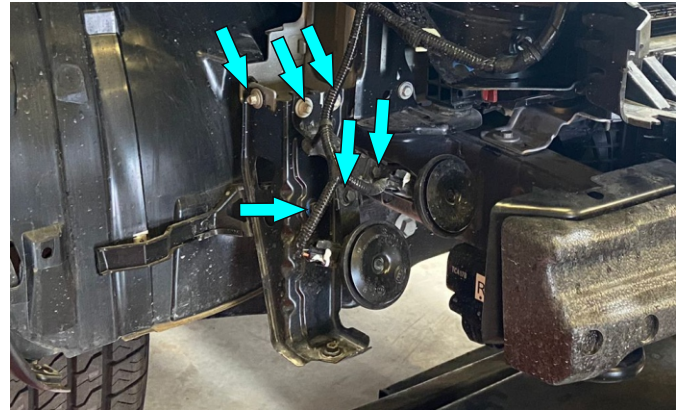

Fig.20
19. Unscrew bolts and remove factory brackets on both sides of the vehicle (fig.20).